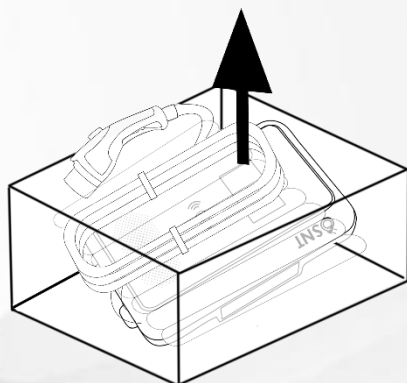

Fig.2
- c. Take out the wall box, as shown in Fig.2